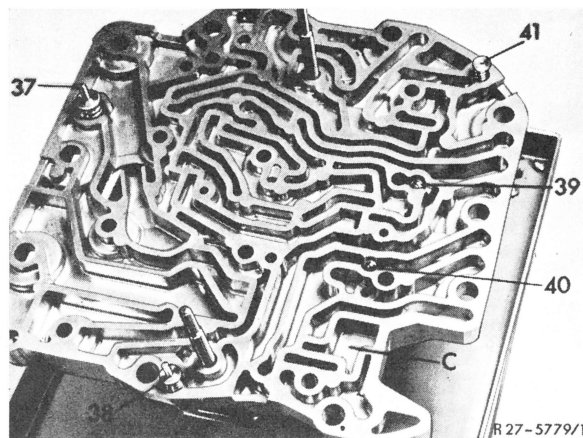

Fig. 6
**10** Remove lube pressure valve (37), one-way throttle valve B 3 (38) and one-way throttle valve releasing end B 2 (41) from oil distributing plate (C) (Fig. 6).
**11** Take oil distributing plate from assembly fixture and remove the two balls of 5.5 mm dia. (39, 40) by tilting (Fig. 6).
**12** Place oil distributing plate (C) on assembly fixture (Fig. 6).
**13** Insert lube pressure valve (37), one-way throttle valve B 3 (38) and one-way throttle valve releasing end B 2 (41) into their seat in oil distributing plate (Fig. 6).
**Caution!** The one-way throttle valve releasing end B 2 (41) has varying throttle diameters, W 3 A 040 1.5 mm dia. and W 3 B 050 1.0 mm dia. The throttle valve of 1.0 mm dia. is copperplated for identification.
**14** Place ball of 5.5 mm dia. (39) and ball of 5.5 mm dia. (40) into their countersunk seats (Fig. 6).